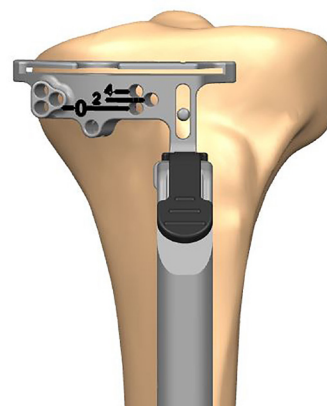

Figure 15
2. Once approximate resection level is set, use a headed 45mm pin to pin through the provisional slot in the Tibia Cutting Block (Figure 15).